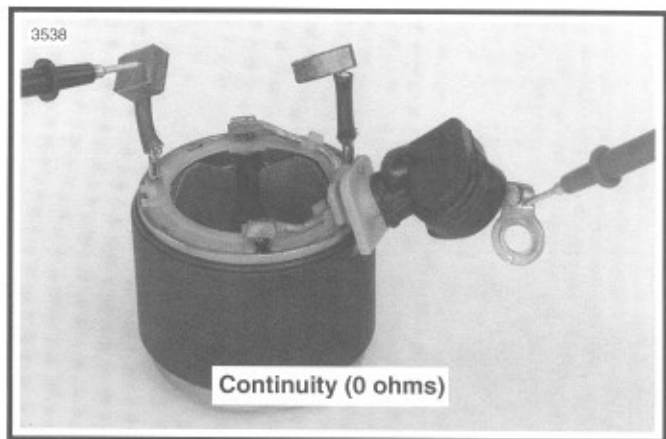

Figure 5-18. Open Field Test
13. See Figure 5-18. Check for OPEN FIELD WINDING with an ohmmeter or continuity tester. Touch one probe to the field wire. Touch the other probe to each of the brushes attached to the field coils. There should be continuity. If there is no continuity at either brush, then the field winding(s) are open and the field frame must be replaced.